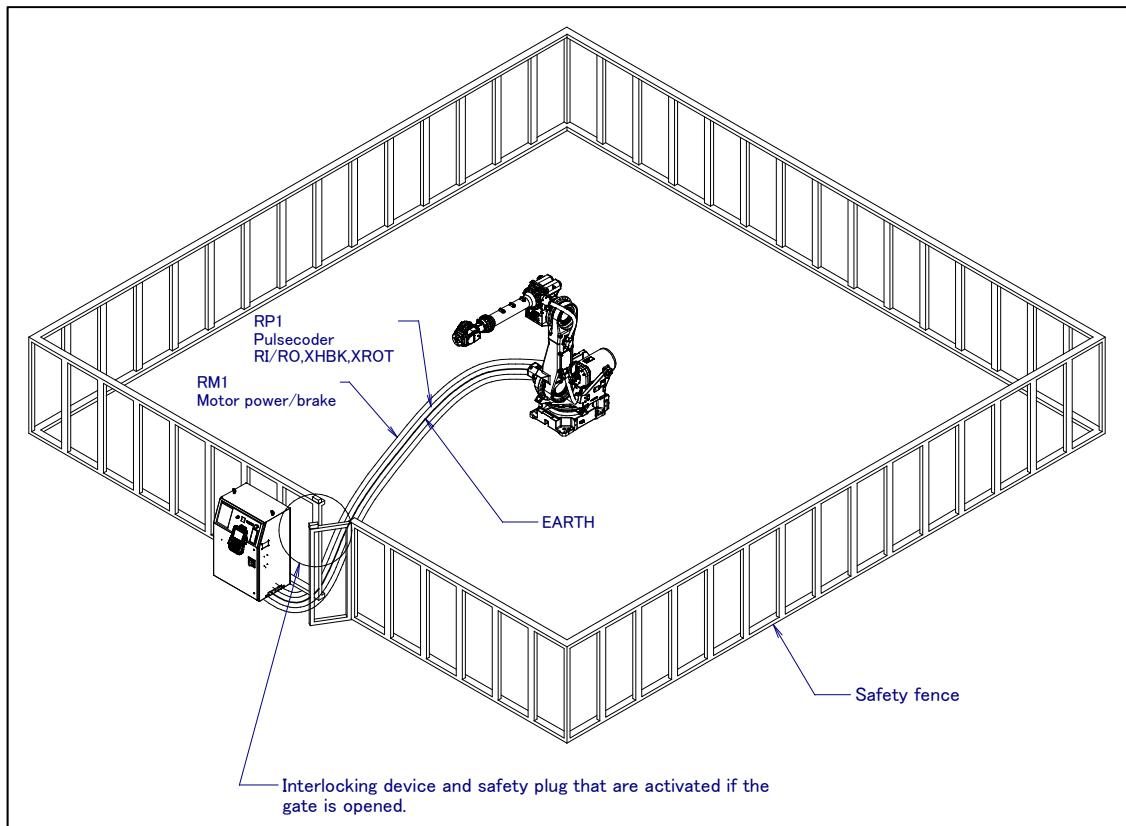

Fig. 2.4.2 (a) Safety fence and safety gate
- (9) When adjusting each peripheral device independently, make sure to turn the power off the robot controller.
- (10) Operators must take the gloves off while manipulating the operator's panel or teach pendant. Operation with gloved fingers may cause an operation error.
- (11) Programs, system variables, and other information can be saved on memory card or USB memories. Be sure to save the data periodically in case the data is lost in an accident. (Refer to Controller maintenance manual.)
- (12) The robot must be transported and installed by accurate procedure recommended by FANUC. Wrong transportation or installation may cause the robot to fall, resulting in severe injury to workers.
- (13) In the first operation of the robot after installation, the operation should be restricted to low speeds. Then, the speed should be gradually increased to check the operation of the robot.
- (14) Before the robot is started, it should be checked that no one is in the area of the safety fence. At the same time, a check must be made to ensure that there is no risk of hazardous situations. If detected, such a situation should be eliminated before the operation.
- (15) When connecting the peripheral devices related to stop(safety fence etc.) and each signal (external emergency, fence etc.) of robot, be sure to confirm the stop movement and do not take the wrong connection.
- (16) In preparing the trestle, please secure the maintenance worker safety at high place in reference to Fig. 2.4.2 (c). Design with the Scaffolding and Safety-belt with circumspection.